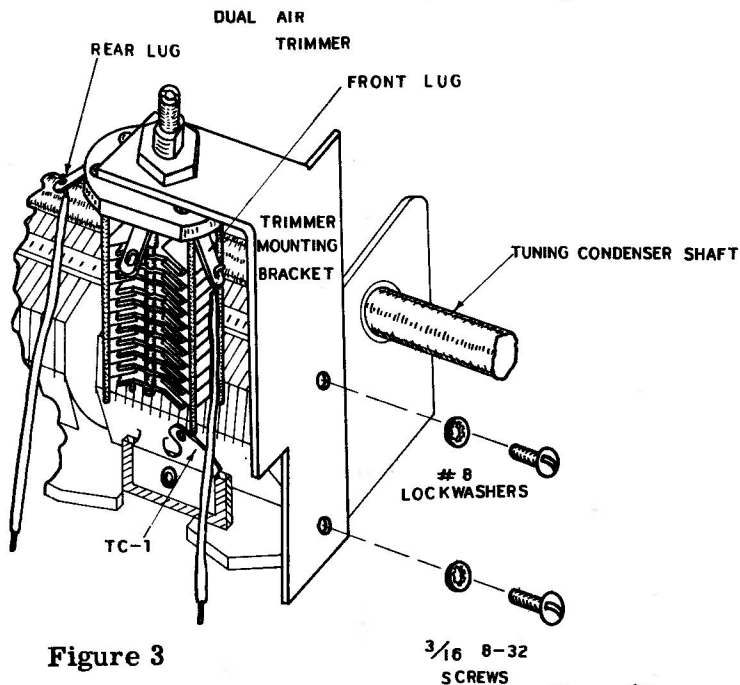

Figure 3
- () With the tuning capacitor shaft facing toward you, using the two $\frac{3}{16}$ " 8-32 screws and #8 lockwashers, mount the trimmer mounting bracket at the left front side near TC-1. See Figure 3 and Figure 4.
- () Strip both ends of a 3" length of hookup wire. Connect one end to TC-1 (NS). See Figures 3 and 4.
- () Slip a 1 $\frac{3}{4}$ " length of insulated sleeving over one lead of a .1 μfd 200 V. capacitor and connect this lead to TC-1 (NS).
- () Connect a 1 $\frac{3}{4}$ " length of hookup wire to each of the two terminals on opposite ends of the dual air trimmer capacitor. Solder both connections. See Figure 3.